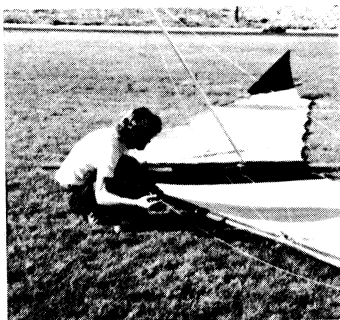
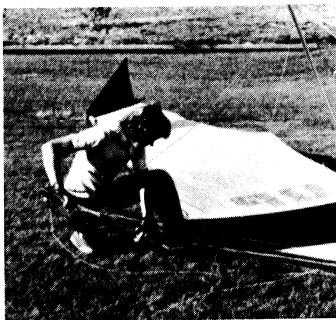
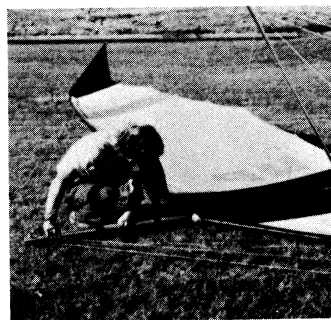

Fig. 9
Fig. 10
Fig. 11
(10) Rig the bowsprit extension as follows: (a) Pull the outboard sweep cables out from under the wings and free any snags (See Fig. 9). (b) Pull the special bowsprit bag off the tube and rotate the bowsprit extension forward 180° into flying position from its folded position on top of the keel. (c) Make sure both the heavy duty 5/32" inboard sweep cables and the outboard 3/32" sweep cables are free of snags and that all thimbles are in alignment. Make sure that the lower lead flying wires are not twisted and that each lower wire is not snagged or misaligned. (d) Very carefully place the top rear edge of the bowsprit tube on the top of the machined aluminum bowsprit fitting on the keel at approximately a 45° angle from the keel (See Fig. 10). (e) Step "inside" all the sweep cables attached to the nose of the bowsprit and place the instep of your left foot underneath the right leading edge near the keel plates (See Fig. 11). (This will keep the nose off the ground while the bowsprit extension is being rotated downward into flying position.